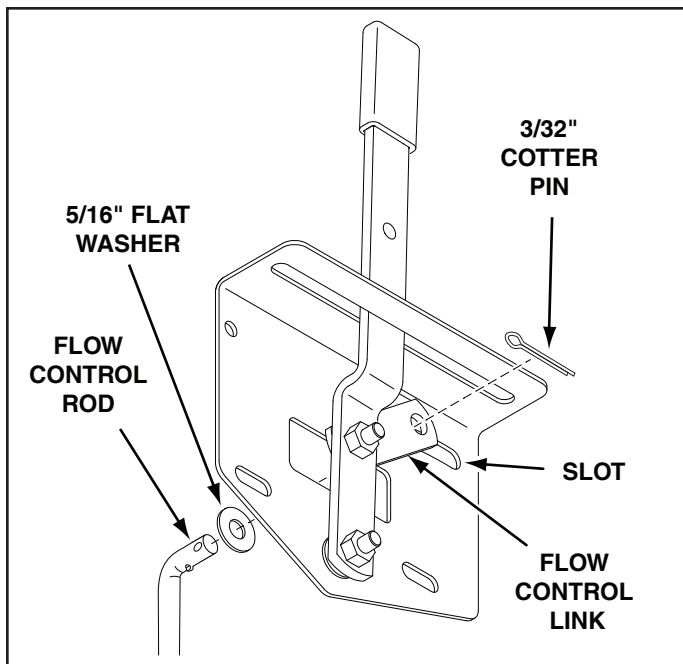

FIGURE 9
17. Place a 5/16" flat washer onto the end of the flow control rod. Insert the end of the flow control rod through the slot in the flow control mounting bracket and through the hole in the flow control link. Secure with a 3/32" x 3/4" cotter pin. See figure 9.